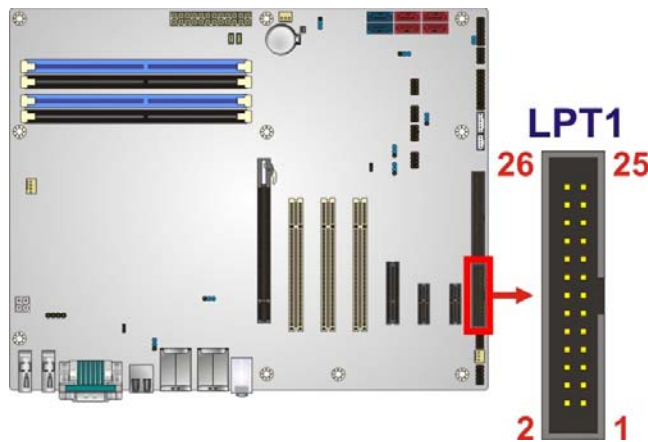

Figure 3-13: Parallel Port Connector Location
- CN Location:** See **Figure 3-13**